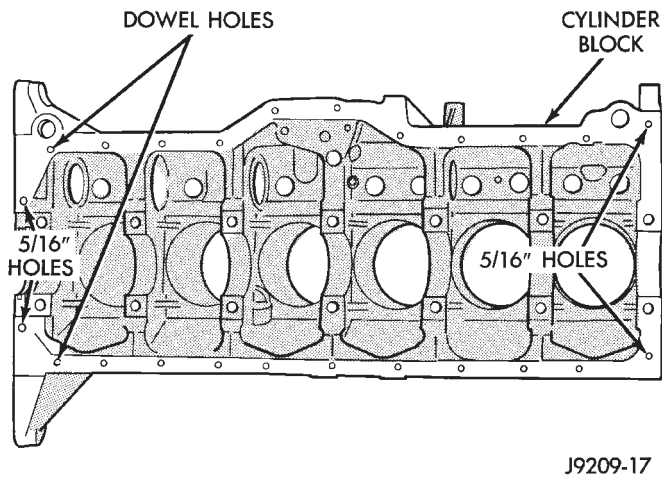

Fig. 2 Position of Dowels in Cylinder Block
(2) Install two dowels in the timing case cover. Install the other two dowels in the cylinder block (Fig. 2).